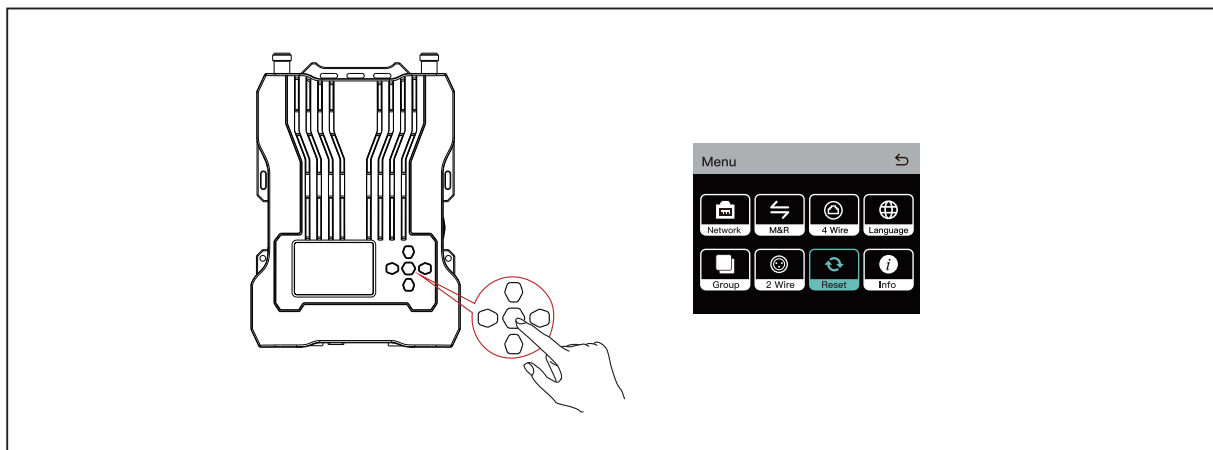

Figure 2
1. In a four-system cascade connection, press and hold the menu/confirmation button on the base stations to enter the menu interface and then select **Reset**. (See Figure 2)